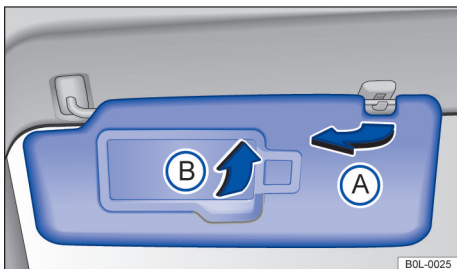

Fig. 75 In the front headliner: sun visor
- Pulled out of the bracket and swung over towards the door → Fig. 75(A).
There is a vanity mirror behind a cover → Fig. 75 (B) on the inside of the sun visor. Open the cover and you can see the vanity mirror.